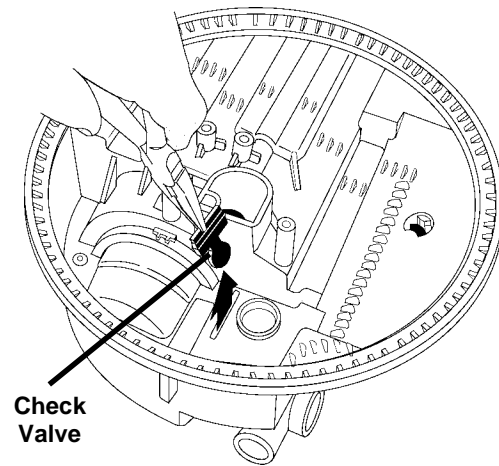

Fig. 3-24
- The check valve, located between the wash motor and the drain can be removed with a pair of needle nose pliers. (Fig. 3-24)